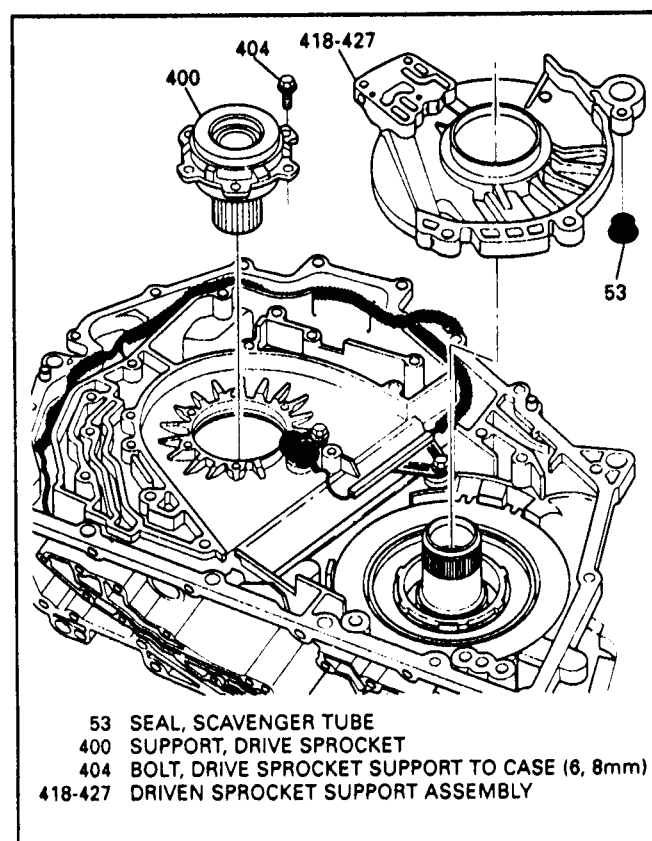

Figure 55
9. Remove 6 drive sprocket support bolts using 8mm socket (See Figure 55).
10. Remove drive sprocket by tapping off using a plastic mallet from bell hsg. side (See Figure 55).
11. Remove the driven sprocket support assembly (See Figure 55).
12. Make sure scavenge tube seal remains in the driven sprocket support. If not, inspect scavenge tube case area for dislodged seal (See Figure 55).
1. Remove two 8mm bolts, one from speed sensor, and one from the wire harness retainer (See Figures 55 and 56).